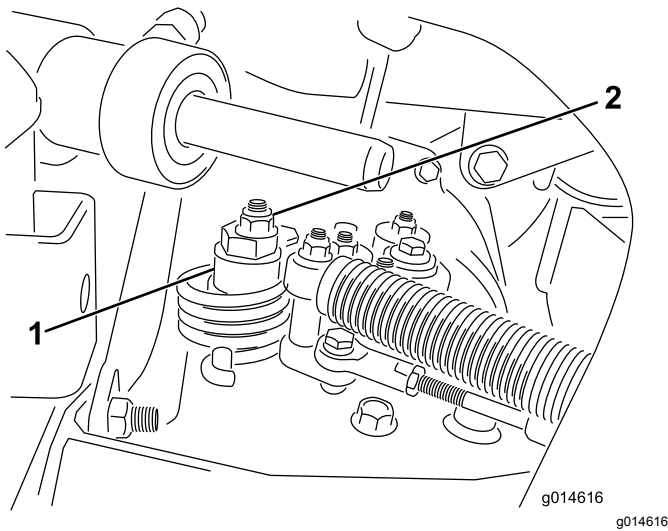

Figure 33
- A. Loosen the nut securing the eccentric to the top of the hydrostat (Figure 33).
- C. Rotate the eccentric until creep does not occur in either direction. When the wheel stops rotating, tighten the nut locking the eccentric and the adjustment (Figure 33). Verify the adjustment with the throttle in the SLOW and FAST position.